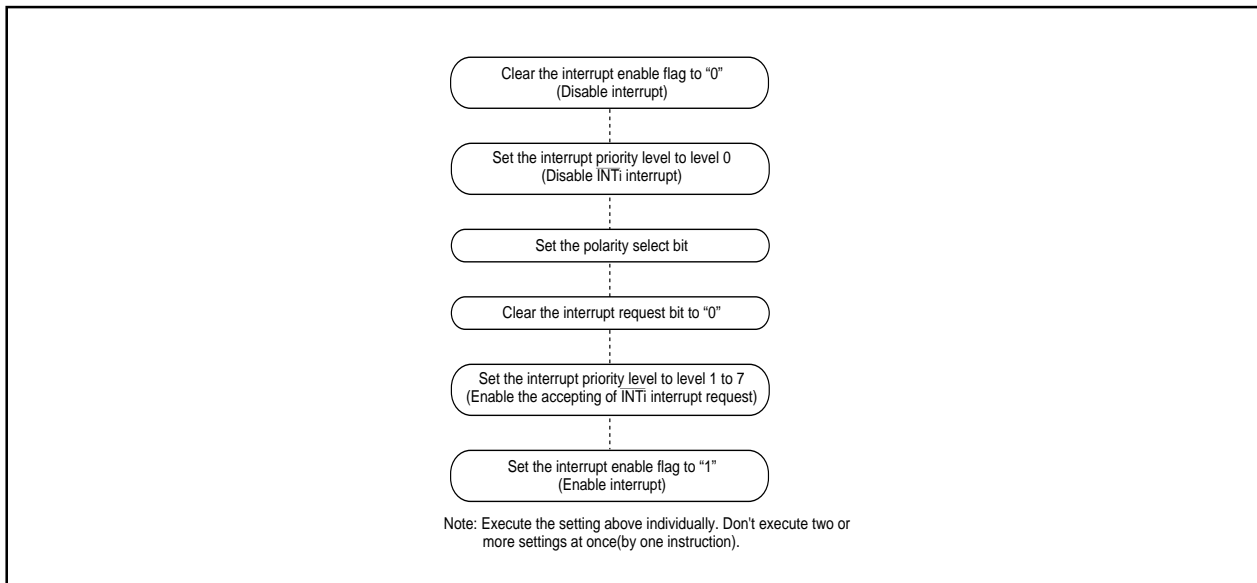

Figure 1.11.13. Switching condition of INT interrupt request
- When the polarity of the  $\overline{\text{INT}}_0$  to  $\overline{\text{INT}}_5$  pins is changed, the interrupt request bit is sometimes set to "1". After changing the polarity, set the interrupt request bit to "0". Figure 1.11.13 shows the procedure for changing the  $\overline{\text{INT}}$  interrupt generate factor.